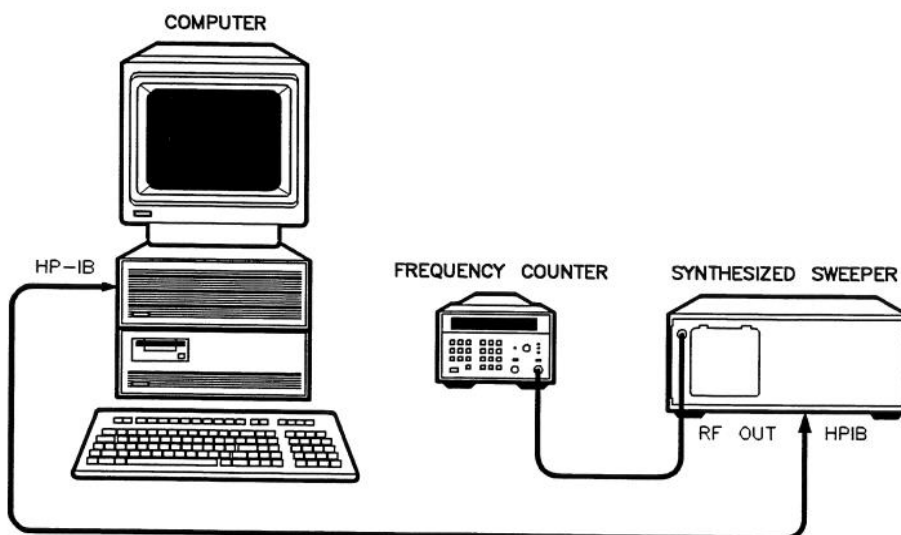

Figure 4-3. CW Accuracy Test Setup
1. Connect the equipment as shown in Figure 4-3. Preset the instruments and let them warm up for one hour. The computer is only required if you use an HP 8360 source that does not have front panel controls.